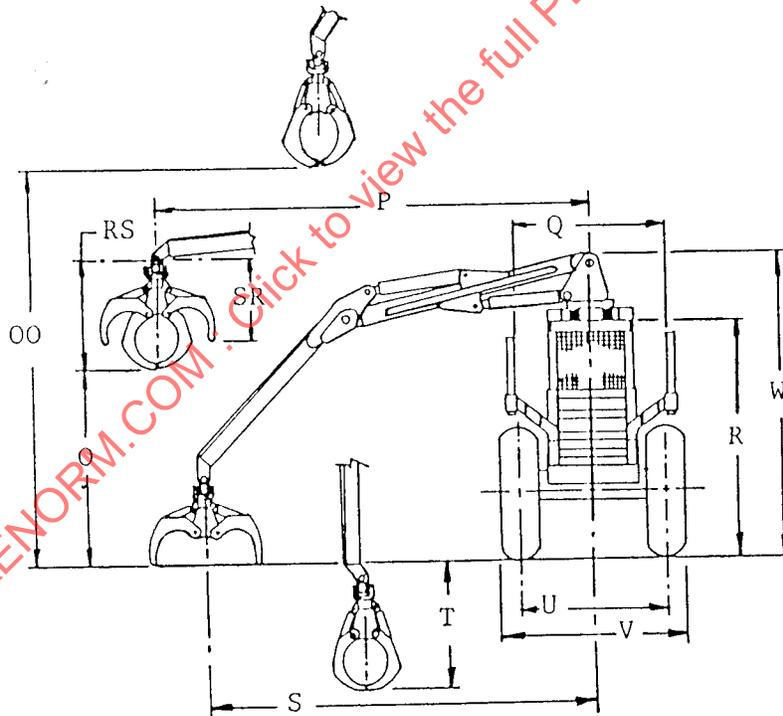

FIGURE 2—REAR VIEW ARTICULATED RUBBER-TIRED FORWARDER
- 4.15 Loading Height of Loader at Maximum Reach (O)**—The vertical height of the loader at the maximum horizontal loader reach (P), measured from the bottom of the grapple in tip to tip condition to the horizontal reference plane. (Figure 2)
- 4.16 Maximum Reach of Loader (P)**—The maximum horizontal reach from the axis of rotation to the centerline of the grapple. (Figure 2)
- 4.17 Maximum Loader Lift Height (OO)**—The maximum vertical lift height from the bottom of the grapple in tip to tip condition to the horizontal reference plane on a specified horizontal radius from the centerline of the loader. (Figure 2)
- 4.18 Grapple Height Closed (RS)**—The vertical distance between the boom pivot and the bottom of the grapple in tip to tip condition. (Figure 2)
- 4.19 Grapple Height Open (SR)**—The vertical distance between the boom pivot and the tips of the fully open grapple. (Figure 2)
- 4.20 Width Across Stakes (Q)**—The horizontal distance between the tree side of the stakes on the rear frame. (Figure 2)
- 4.21 Operator Enclosure Height (R)**—The vertical distance between the horizontal reference plane and a horizontal plane passing through the outside top of the operator enclosure. (Figure 2)
- 4.22 Maximum Loader Reach at Ground Level (S)**—The maximum horizontal distance from the longitudinal axis of the loader with open grapple resting on the horizontal reference plane. (Figure 2)
- 4.23 Maximum Depth of Loader (T)**—The maximum depth below the horizontal reference plane to the bottom of the grapple in tip to tip condition on a specified horizontal radius from the centerline of the loader. (Figure 2)
- 4.24 Tread (U)**—The horizontal distance between two parallel vertical planes passing through the centerline of the tires on an axle. If the front and rear are different, both must be specified. (Figures 2, 3 and 4)
- 4.25 Overall Width (V)**—The horizontal distance between the vertical planes parallel to the longitudinal axis and passing through the farthest points on the two sides of this axis. (Figures 2 and 3)
- 4.26 Overall Height (W)**—The vertical distance between the horizontal reference plane and a horizontal plane passing through the highest point of the forwarder, with the main loader boom cylinder in retracted or travel position. (Figures 2 and 7)